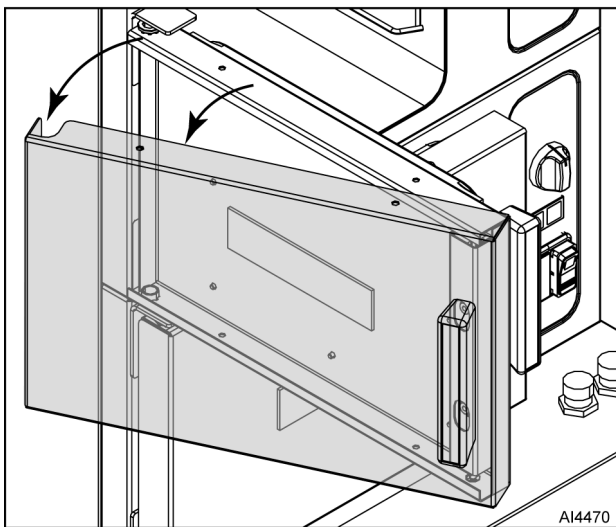

Fig. 14
3. Pull outer door housing (Fig. 14) away from inner door panel starting at hinge side of door to separate door halves.